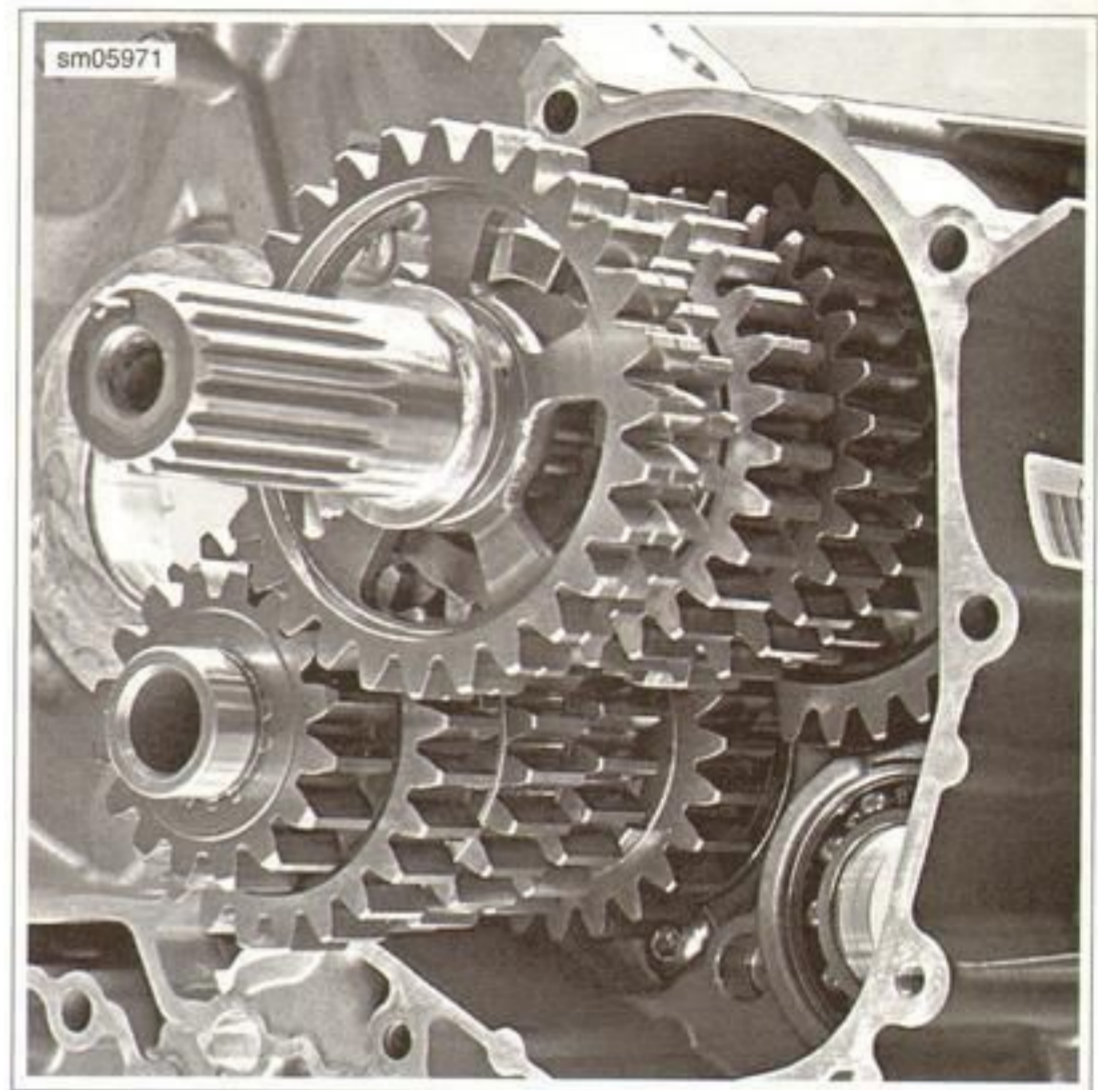

Figure 6-80. Mainshaft and Clutch Shaft in Right Case
2. See Figure 6-80. Fit the mainshaft and clutch shaft into the right crankcase bearings.